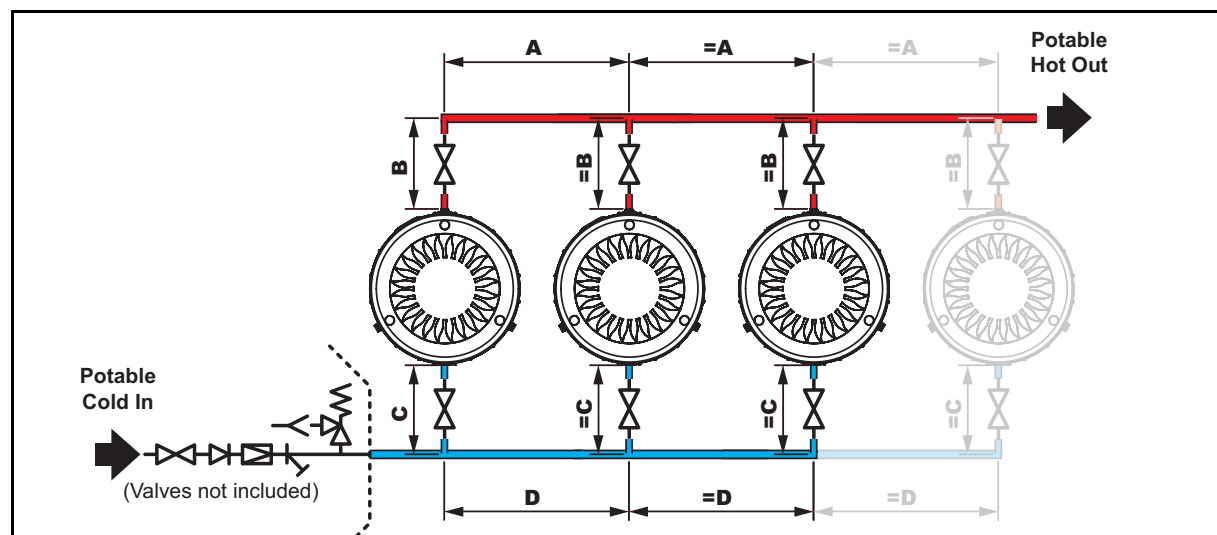

Figure 1 - Maximum of 3 x HD Hot Water Units per tank
1. DDHEX250 - 250 Litre heat exchange Vented Tank. (Refer Ⓐ in Figure 1).